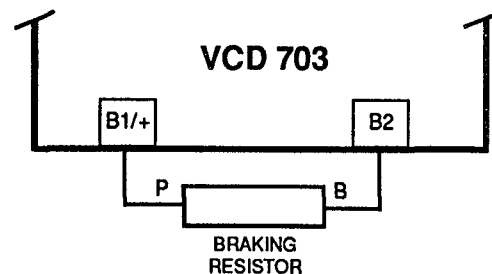

Figure A5-2. Lead Connections For Braking Resistor (Heat Sink Mounted)
4. Connect the leads from the Braking Resistor to drive terminals according to Figure A5-2.